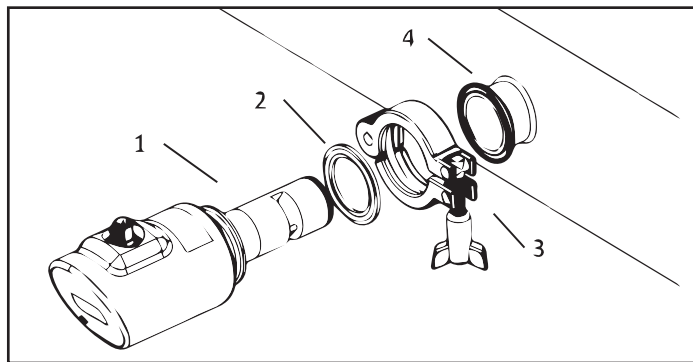

FIG. 19
Make sure it is inserted as shown in FIG 19 so that it is above the opening for the wiper and LED. Shake to remove air bubbles.
Step 2 - Hold Magnet over white dot sensor actuation location for at least 3 seconds as shown in FIG 19. Wait for wiper to click. Remove magnet.
Weld #4 to pipe --> Install #2 into groove on top of #4 --> Insert #1 (UVT-LED-PW) into #4 --> Clamp in place with #3 by installing clamp around #4 and flange of #1, then tighten wing nut of #3 until tight and no leaking occurs. (see FIG. 19)